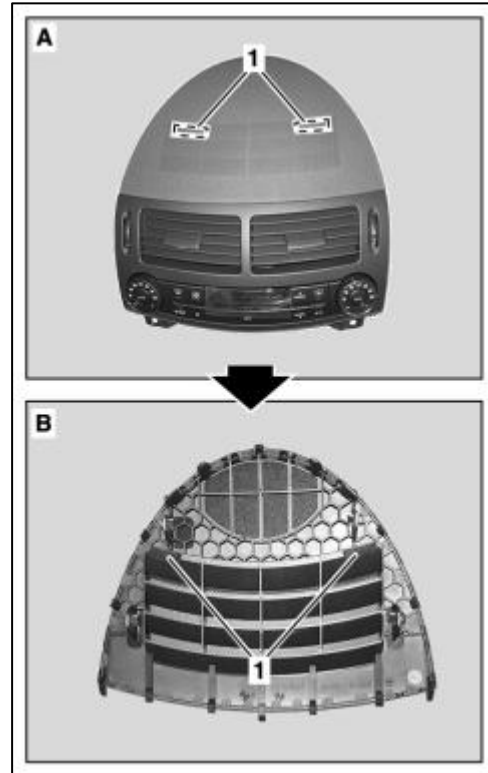

Figure 5
2. Apply felt (material thickness: 1 mm) and replace the grill. (1, Figure 5)